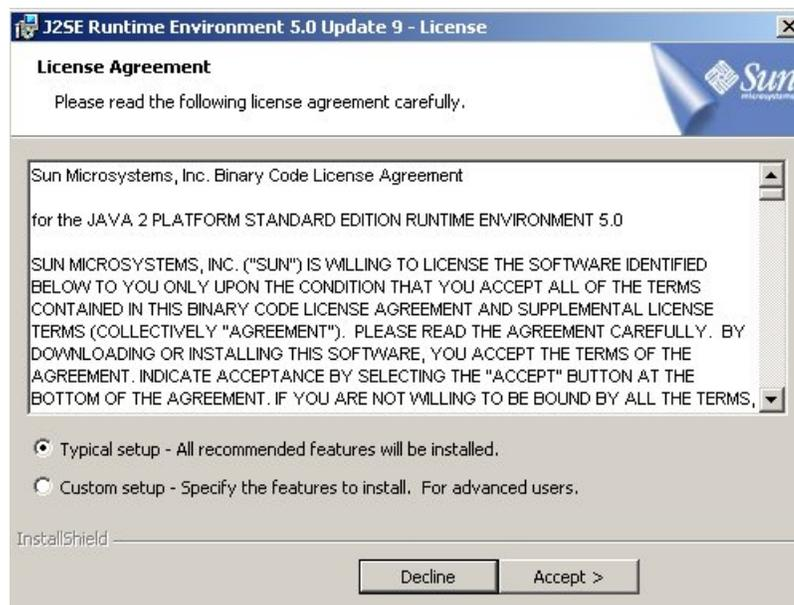

Figure 89: License Agreement
4. Next, the Java installation presents a **License Agreement** screen as shown in Figure 89: License Agreement.